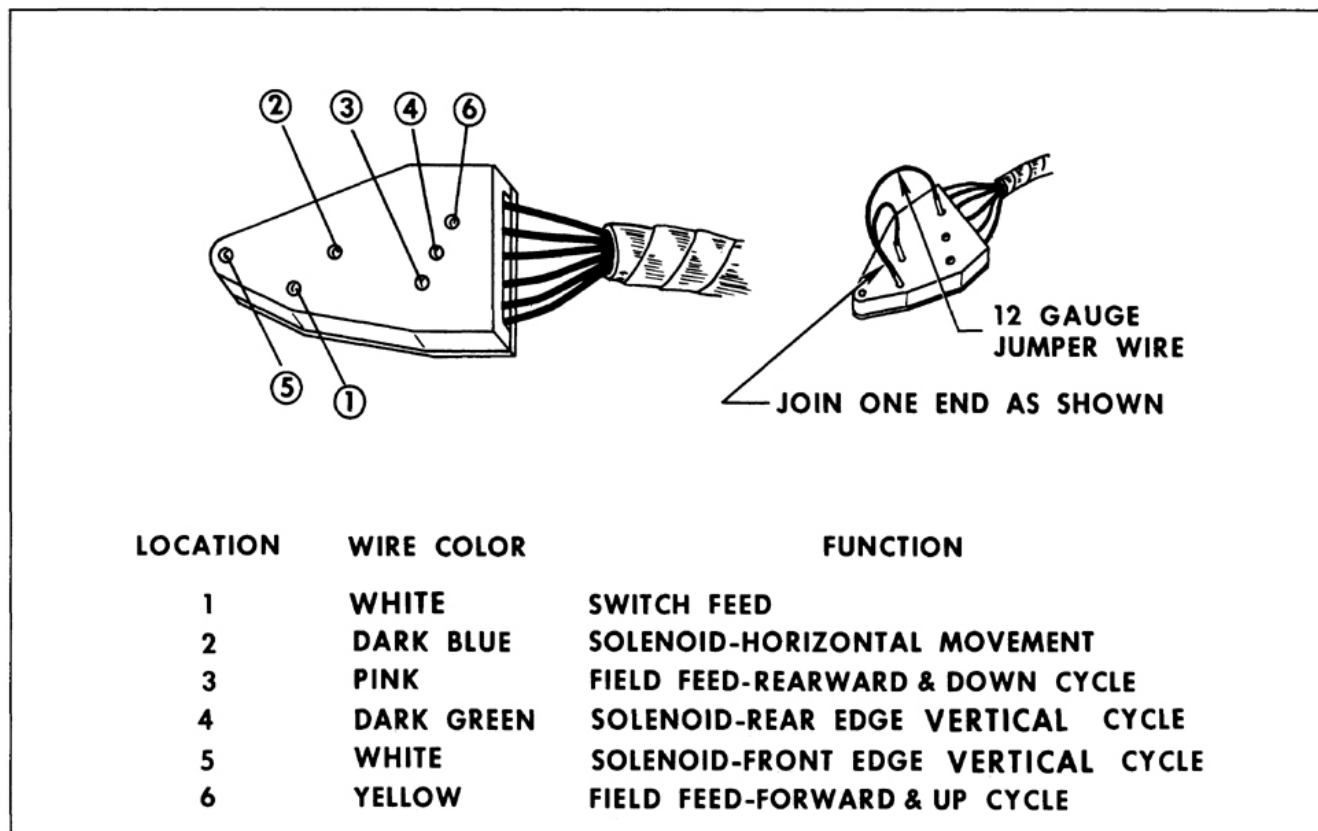

Fig. 16-187 Six-Way Seat Switch Block (In Seat Panel)
1. Connect one light tester lead to feed terminal of switch block and ground other test lead to body metal. (Figs. 16-187 and 188)
NOTE: In the following operations which specify the seat control switch to be actuated, a switch that has been checked for proper operation may be connected to the switch block. If a switch is not available, a three-way jumper wire can be made to perform the switch function. The jumper wire and the switch locations to be connected to obtain a specific movement of the seat are shown in Figs. 16-187 and 188. If a jumper wire is used, number the locations on the switch block as indicated in the illustration. For details outlining the making and use of the jumper wire, refer to three-way jumper wire for checking seat switch.